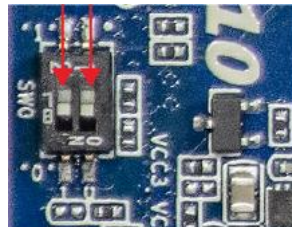

Figure 4-14 SW0[1:0] on Apollo S10 SoM
21. Set SW0[1:0] of the Apollo SoM to “00” as shown in **Figure 4-14**.